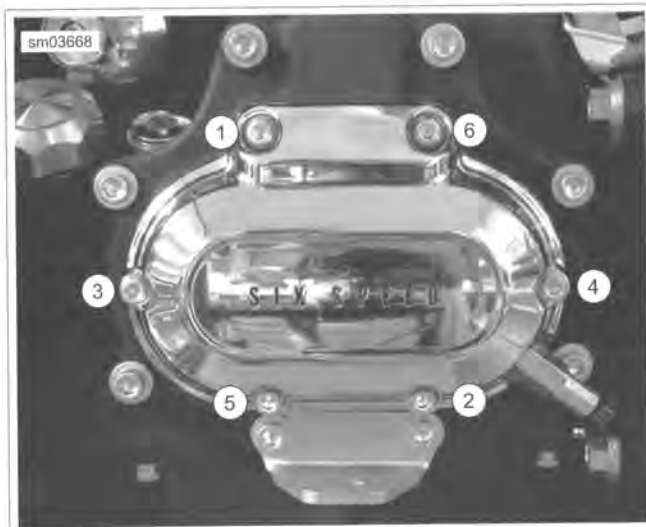

Figure 6-3. Clutch Release Cover Torque Sequence (Short Screws at Locations 1 and 6)
4. See Figure 6-3. Remove six screws securing the clutch release cover. Remove the clutch release cover. Discard the gasket.
See Figure 6-3. Clutch release cover screws in positions (1) and (6) are shorter than the others.
7. See Figure 6-3. Install clutch release cover. Tighten to 132-156 in-lbs (14.9-17.6 Nm) in sequence shown.